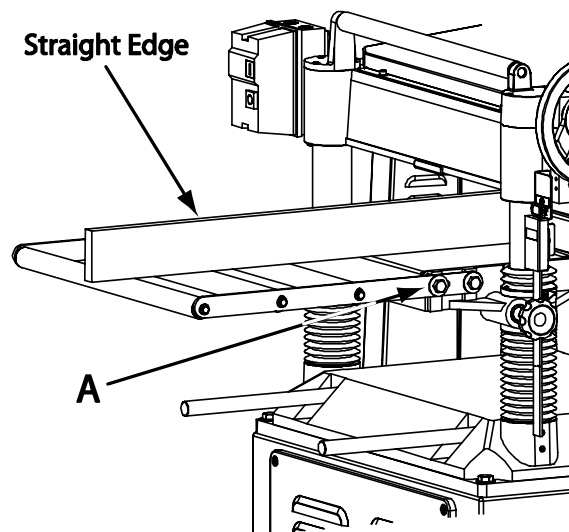

Figure 15
1. Place a straight edge over the extension roller and the table, as shown in Fig. 15, to make sure the extension roller and table are at the same height. If necessary, adjust the table extension rollers as follows:
2. Loosen the screws and washers (A, Fig. 15) to move the extension roller to the proper position, then retighten the screws.